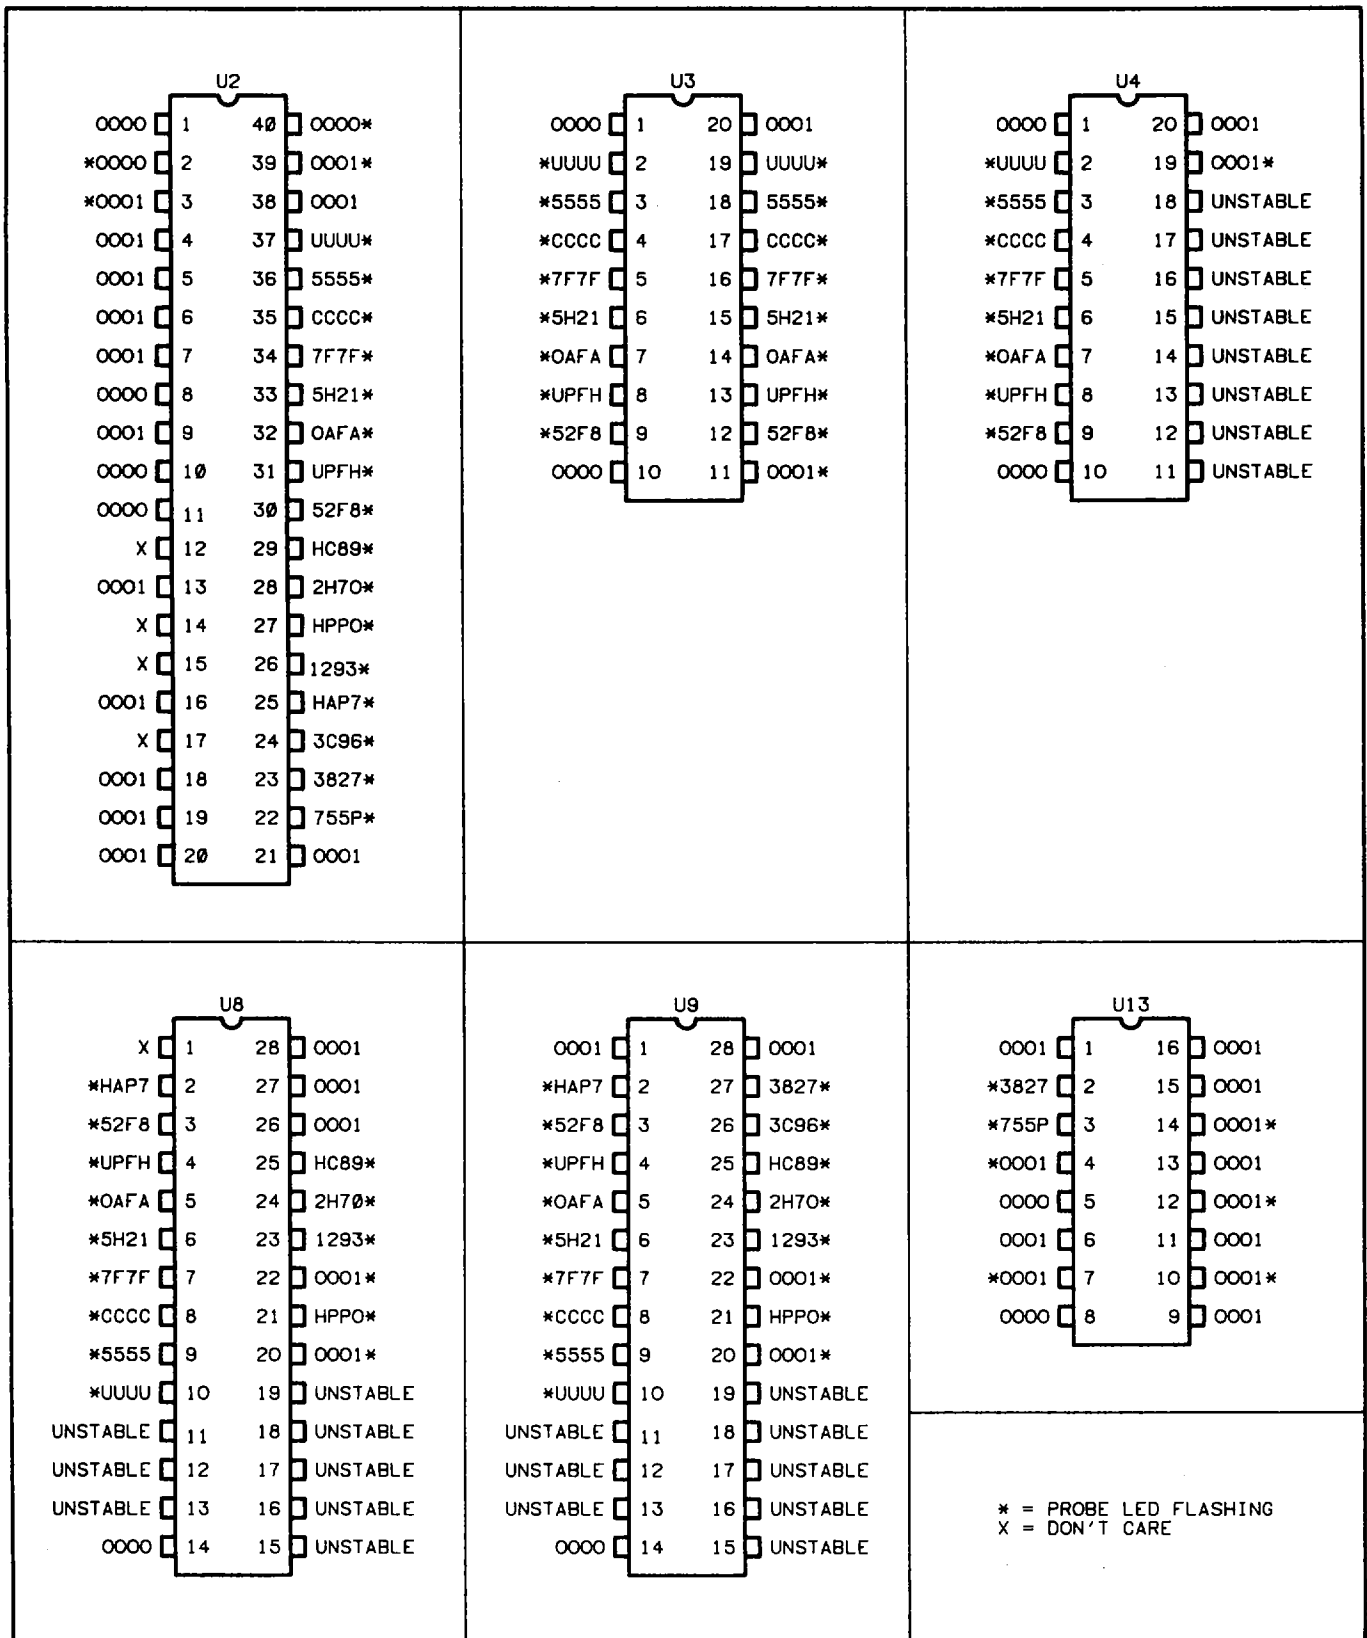

Figure 8-15. HP 5334B, Option 700 Signatures for Setup 1
- e. Power up the Counter and verify the signatures shown in *Figure 8-15*.